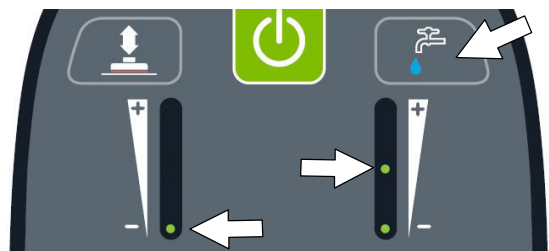

FIG. 155
5. If Lockout Mode 2 was selected, press the solution flow button then choose the desired maximum limits for the solution flow and the brush pressure settings (Figure 155).